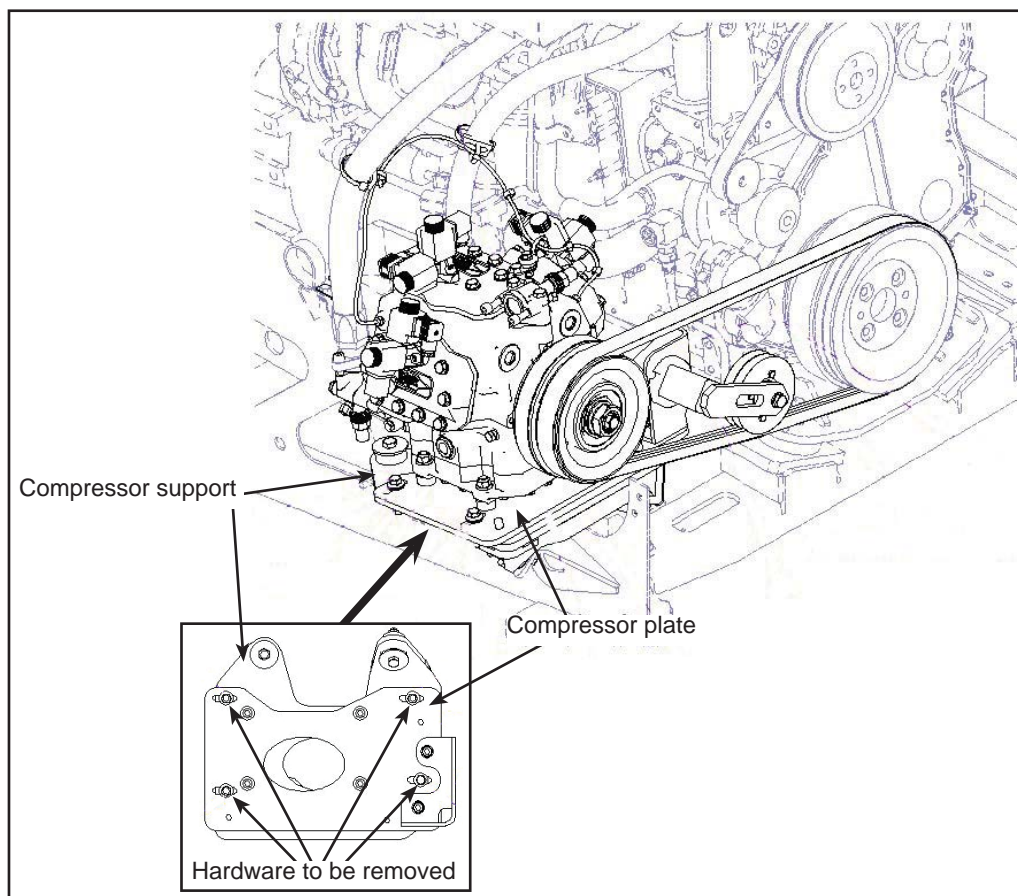

Figure 5 - Hardware to be Removed
- 2.1. Remove the compressor plate M12 bolts (4x), nuts (4x) and washers. See Figure 5. Discard the hardware.